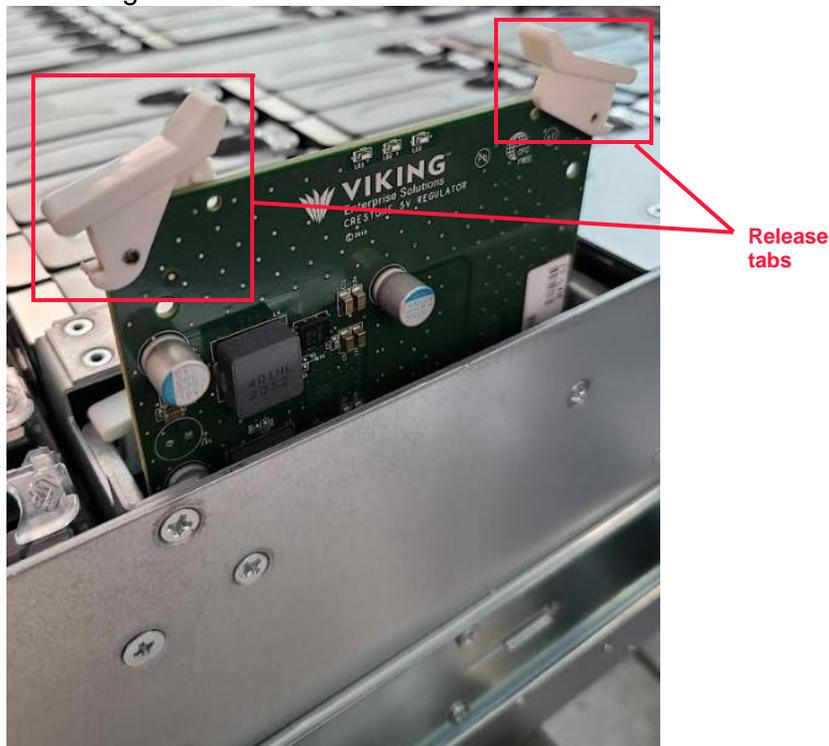

Figure 6.6 5V DC regulator card release tabs
3. Push up on the release tabs on both sides of the regulator card as shown in Figure 6.6.